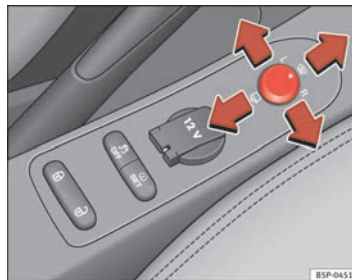

Fig. 86 Controls of exterior mirrors
1. Turn knob ⇒ fig. 86 to position **L** (left exterior mirror). ▶
- Turn the knob forwards to the central position ⇒ page 132, fig. 86  so that the heated rear view mirrors warm up and the heated windscreen* in the wiper blade rest area is activated ⇒ page 128.
- Turn the control ⇒ page 132, fig. 86 to position  to fold in the exterior mirrors. You should always fold in the exterior mirrors if you are driving through an automatic car wash. This will help prevent damage.